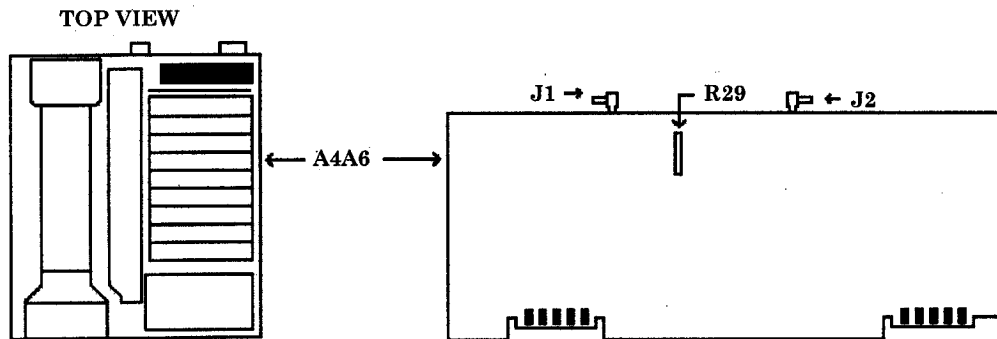

Figure 9. A4A6 board.
- (3) Set TI **LINE** switch to **ON**.
- (4) Press TI keys as listed in (a) through (h) below:
- (5) Adjust A4A6R29 (fig. 9) to align markers on TI display. **MKR D** level should indicate 1.00X.
- (63) Disconnect 89 (gray/white) cable from A4A6J1 (fig. 9).
- (64) Connect 97 (white/violet) cable to A4A6J1 (fig. 9).
- (65) Press TI keys as listed in (a) through (e) below:
- (66) Adjust TI **DATA** knob to position trace at (or just below) reference level (top) graticule line.